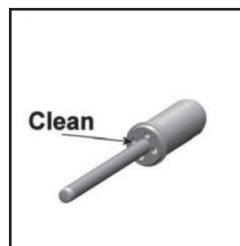

Fig. 21
- b. The 4 poppet holes must be clear. (See fig 21)